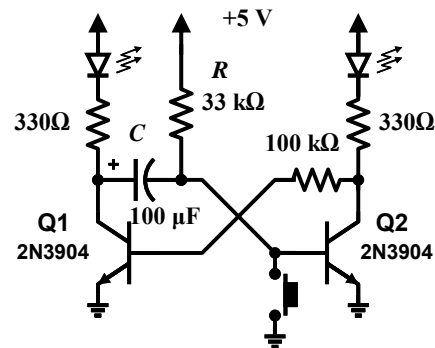

Figure 5-5 – Monostable multivibrator.
Look back at the monostable circuit that you first built. There is another way to implement this circuit (Figure 5-5) that combines some elements of the two circuits you just built using a transistor to help discharge the capacitor. Here the stable state is "Q1 off" and "Q2 on". The base of Q2 is biased through resistor R, so when Q2 is on, the right side of capacitor C is at
- Build the Figure 5-5 and record your observations.